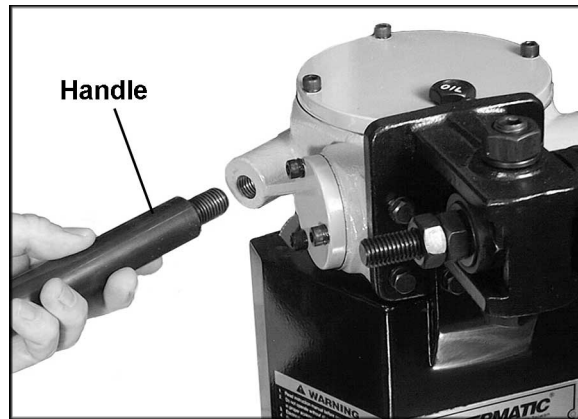

Figure 4
1. Screw the handle (Figure 4) all the way into the threaded hole of the Stock Feeder.